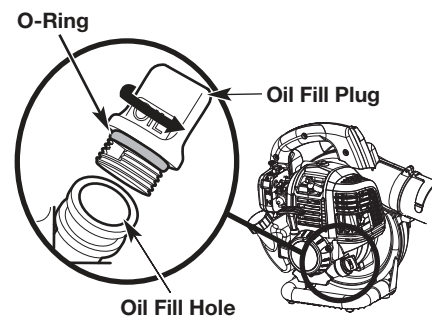

Fig. 9
Note: Make sure the O-ring is in place on the oil fill plug (Fig. 9).
1. Clean the area around the oil fill plug (Fig. 9) to prevent debris from entering the oil fill hole.